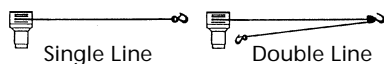

Figure 1
** All loads shown are for single-line operation (see Figure 1). Double-line operation with optional pulley block (p/n 2227) approximately doubles capacity of winch (see Figure 1).
1. The EX1 winch is rated at 1,000 lbs. (single-line) capacity. **DO NOT OVERLOAD. DO NOT ATTEMPT PROLONGED PULLS AT HEAVY LOADS. DO NOT MAINTAIN POWER TO THE WINCH IF THE MOTOR STALLS.** Overloads can damage the winch and/or the wire rope and create unsafe operating conditions. **FOR HEAVY LOADS, WE RECOMMEND THE USE OF THE OPTIONAL PULLEY BLOCK AND HOOK ASSEMBLY (PART NO. 2227) TO DOUBLE-LINE THE WIRE ROPE** (Figure 1). This reduces the load on the winch and the strain on the wire rope by approximately 50%.